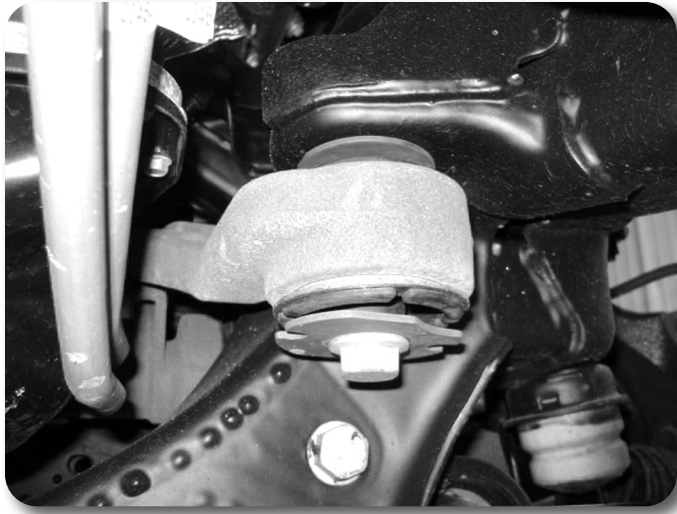

Figure 8
16. Work on one side of the vehicle at a time. Remove the hardware that attaches the differential mounts to the frame. **Figure 8**